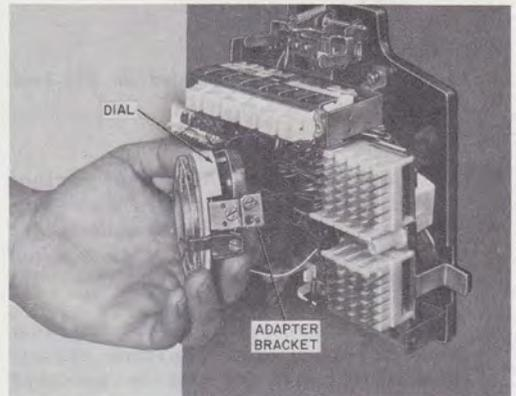

Fig. 12—Dial Adapter Bracket
3.12 3-Type Speakerphone MD: These sets are factory-wired for 3-type speakerphone except that the 851-type telephone set requires the replacement of the 8RA dial with an 8CA dial to provide a second set of off-normal contacts (P3 and P4 leads). When replacing the dial, the adapter brackets must be removed from the 8RA dial and added to the 8CA dial (Fig. 12). With both the rotary and TOUCH-TONE sets, a loudspeaker and transmitter must be installed external to the set and wired to the 55-type control unit. The control unit can be located near the telephone set (Fig. 21) or at the KTS equipment (Fig. 22).
5.02 When dial replacement is necessary in the 851-type telephone set, use an 8RA dial for nonspeakerphone sets and an 8CA dial for sets with speakerphone. Remove dial by loosening adapter mounting screws and springing dial brackets sufficiently to release dial from locating pins. Transfer adapter brackets from dial being replaced to new dial (Fig. 12).